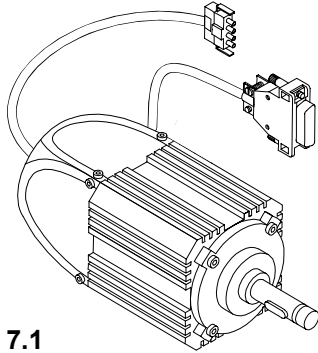

Fig. 7.1
**Motor QE3760 (Fig.7.1)** with integrated optoelectronic incremental encoder for commutation and positioning.